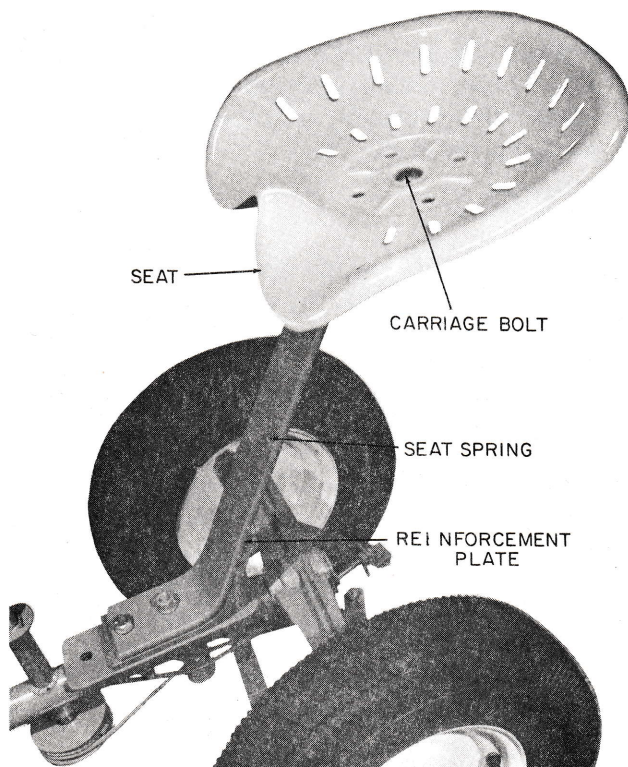

fig 3
Seat, fig 3
- A. Middle position: Fasten brace and spring as in fig 3.